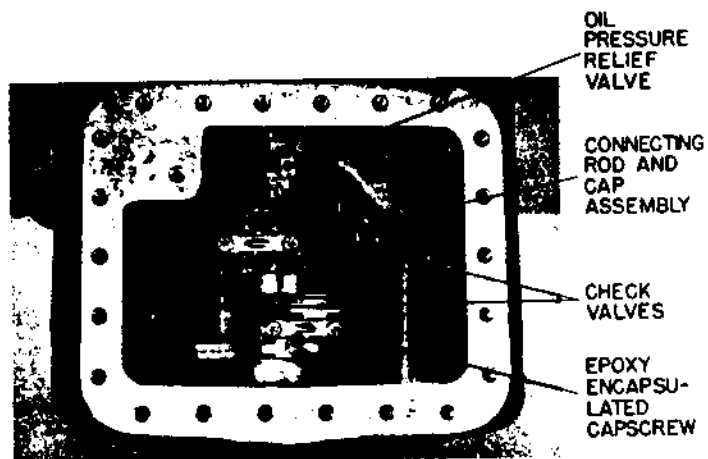

Figure 3-5. Bottom Plate and Oil Strainer Removed
c. Match mark each connecting rod cap and connecting rod for correct reassembly. Remove the capscrews, flat washers and connecting rod caps. It is recommended that the capscrews and flat washers be discarded and new epoxy encapsulated capscrews and flat washers be installed during compressor reassembly. (See figures 3-5 and 3-6.)
- d. Remove and check operation of the oil return check valves. (See figure 3-5, page 3-2.) The check valves are free-floating devices and can easily be checked visually.
a. Check operation and reinstall check valves and relief valve. (See figure 3-5, page 3-2.) The check valves are free-floating devices and can easily be checked visually. The relief valve is a spring-loaded device which can be checked by using a small piece of stiff wire to ensure that the spring mechanism can be depressed.